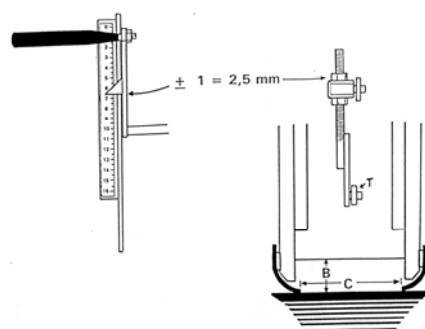

Fig. 19. Scale and rear door
4. Make a control of the rear door opening and the edge tape distance. (look at fig. 19):
5. If the spreader continously rates out incorrect, having done the above described controlls, then find out how many steps on the scale the machine rates out incorrect. The ajustment nuts on the connetions to the rear doors is then used to correct the error. One step on the scale equals 2,5 mm opening difference on the rear doors. If you turn the nuts 1,5 turning on B2XL/B3XL and B2ML and 1,25 turn on B4/B6/B8 you will raise/lower the rear doors one step on the scale (fig. 19). (**Calculating % error can not be used**).